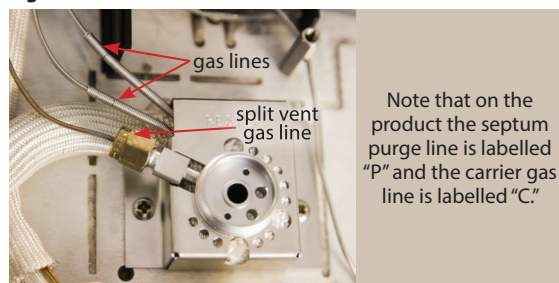
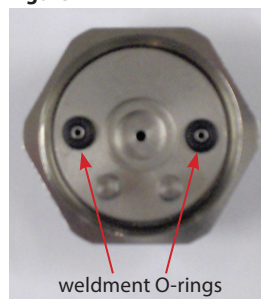

Figure 2
Figure 3
5. Make sure the small Viton® O-rings are positioned correctly on the bottom of the weldment (Figure 2). When installing an inlet liner into the shell weldment, use a graphite or Viton® O-ring. Place the weldment on the top of the shell weldment. Align the pins on the weldment with the holes in the shell weldment. Thread the weldment onto the shell weldment. Tighten, using the weldment removal tool (cat.# 22728), (Figure 3).